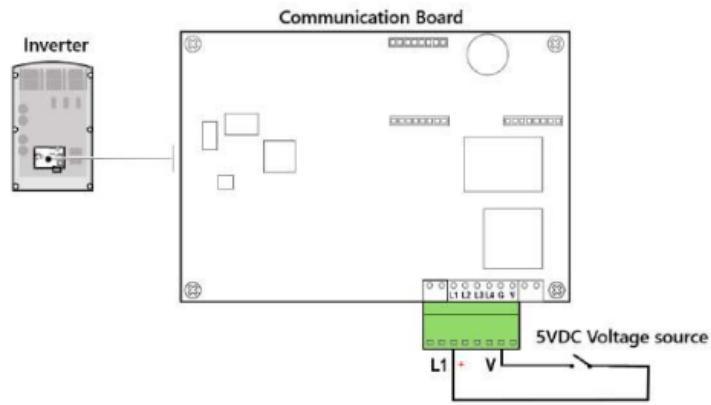

Figure 4 Alternative Power Source mode self-test - using the generator as voltage source
9. Use the V terminal as the voltage source to connect it to the ATS. The ATS output should be connected to L1 (See Figure 4).
3. Connect twisted pair wires to the L1 and G terminals of the Communication Board (See Figure 4).